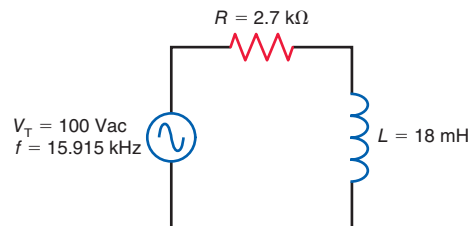

Figure 20-16
- 20.11** In Fig. 20-16, what happens to each of the following quantities if the frequency of the applied voltage increases?